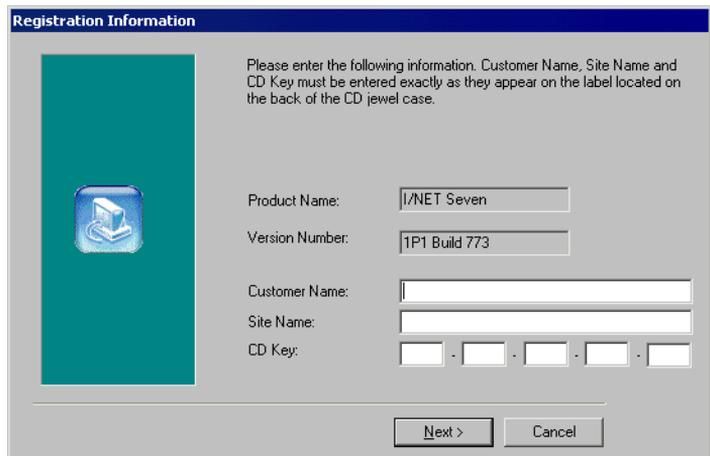

Figure 2-4. Registration Information Dialog Box
- Setup displays the Registration Information dialog box (see Figure 2-4).